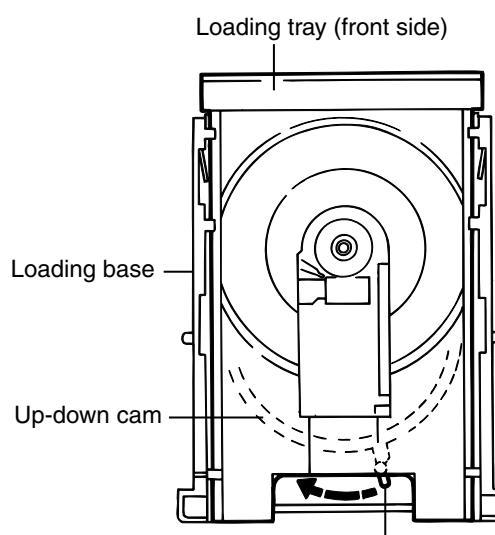

Fig.2
■ Removing the loading tray (See Fig.2~4)
- 1. Turn the up-down cam lever clockwise (in the direction of the arrow in Fig.2) to lower the position of the mechanism.